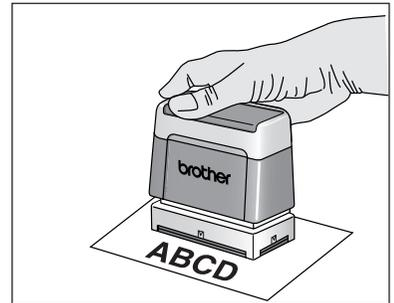

figure 3
- For several hours, keep the ink pad in a warm place and in an upright position to ensure that it cures correctly (see figure 3).